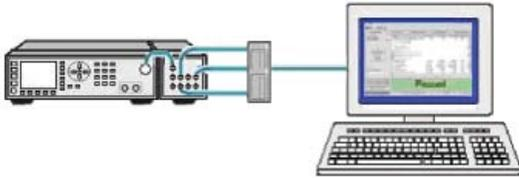

Figure 14. Hardware diagram
The transmitter 802.11n demod test performs multiple measurements from one data capture. The 802.11n demod measurement can be used on a single channel or a multi-channel, multiple input/multiple output (MIMO) device transmission. When measuring multiple channels the N4011A hardware is connected to the N4010A RF In/Out port and the device antennas are connected to the N4011A ports as illustrated in Figure 14. Setting up the N4010A/N4011A for a number (N) multiple channels results in the N4011A automatically switching to capture signals from N number of channels.